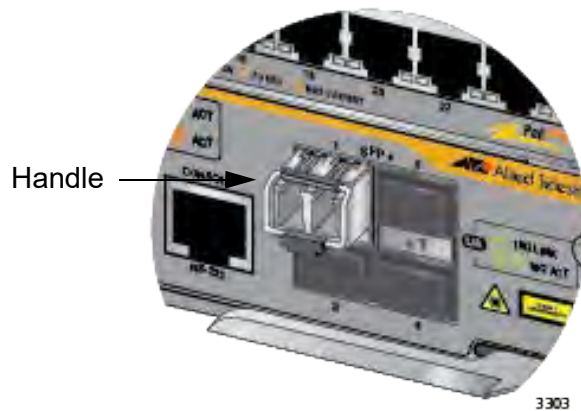

Figure 116. Positioning the Handle on the Transceiver
5. Verify the position of the handle on the transceiver. If the transceiver is in slot 1 or 3, the handle should be in the upright position, as shown in Figure 116. If the transceiver is in slot 2 or 4, the handle should be in the down position.